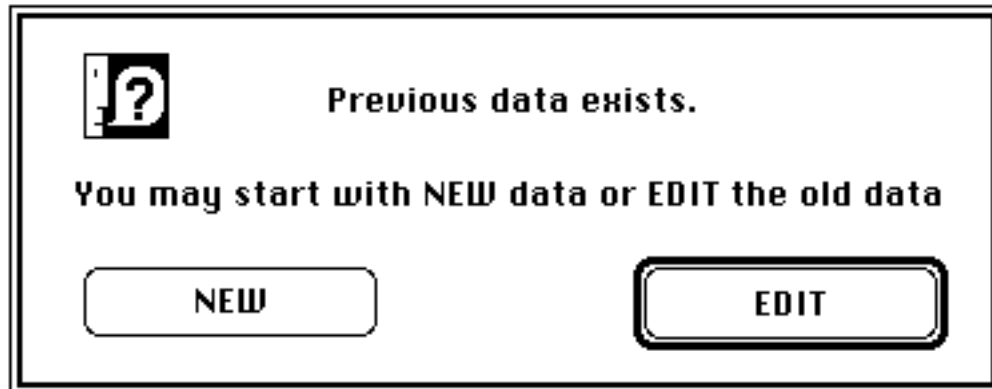

Fig 2.13 Existing data alert
- Click Edit to use the existing demo file (Fig 2.13).